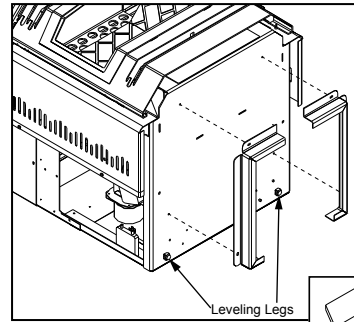

Figure 22: Installing Pedestal
There are two parts to the GFI55-2 insert pedestal and they can be found inside the hopper. Place unit on its back. Two (2) hex head screws are used on each side of the pedestal (refer to Figure 22). Using a 5/16" wrench or socket, secure the pedestal to the bottom of the unit.